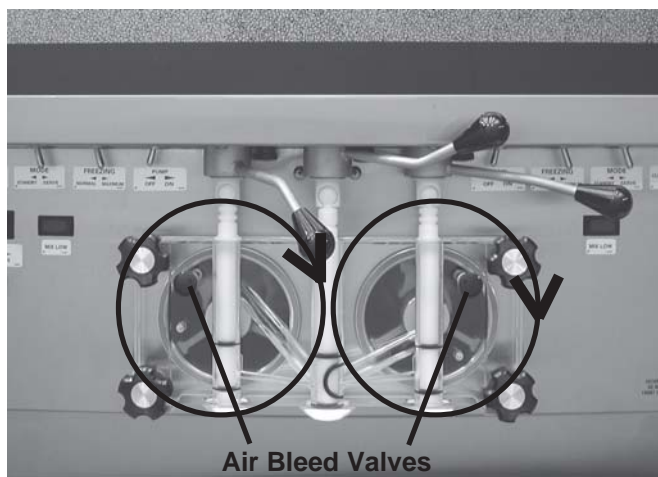

Figure 12. Air Bleed Valves
- C. Place the mix pump switch in the ON position and open air bleed valve on the front door by pushing valve in and holding. Figure 12.
- Place the mix pump in the SERVE position. Open spigot and pump liquid mix through the freezer. When empty, place CLEAN-OFF-SERVE switch and the mix pump switches in the OFF position. Figure 12.